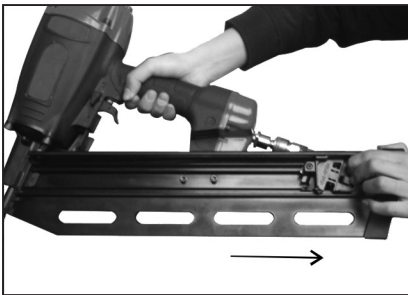

Figure 2
1. Pull feeder shoe all the way to the rear, until it latches (see Fig. 2).